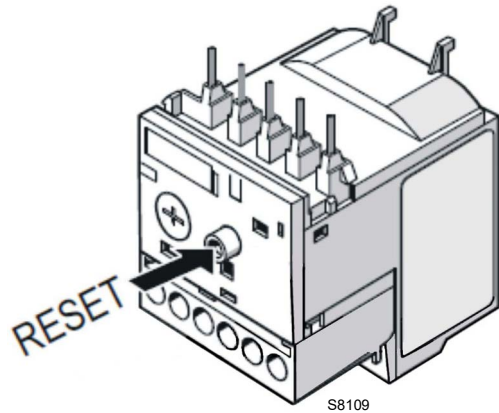

Fig. 29
- To reset, in the case of an intervention of the electronic relay, press the button "RESET" (Fig. 29).